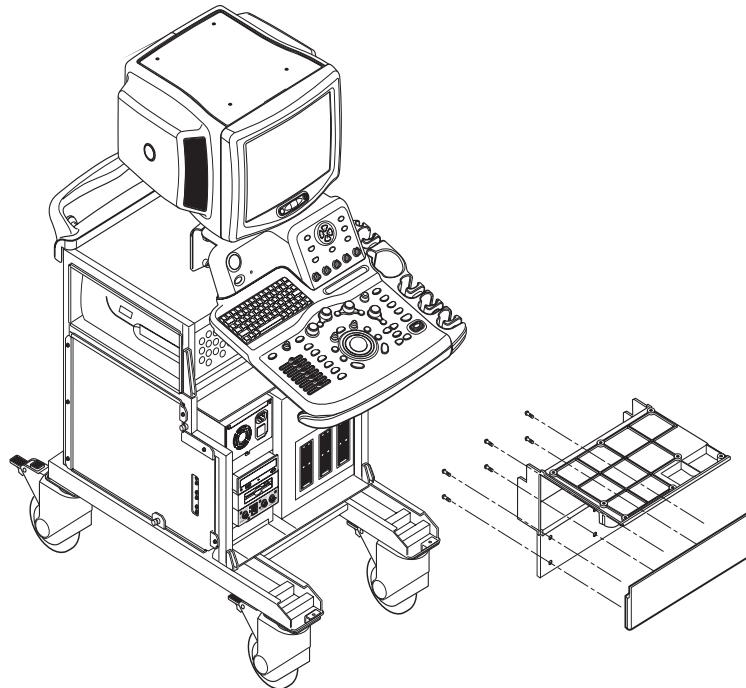

Figure 8-60 Remove the OP Curtain Cover
- 9.) Remove the OP Curtain Cover. Refer to Figure 8-60.